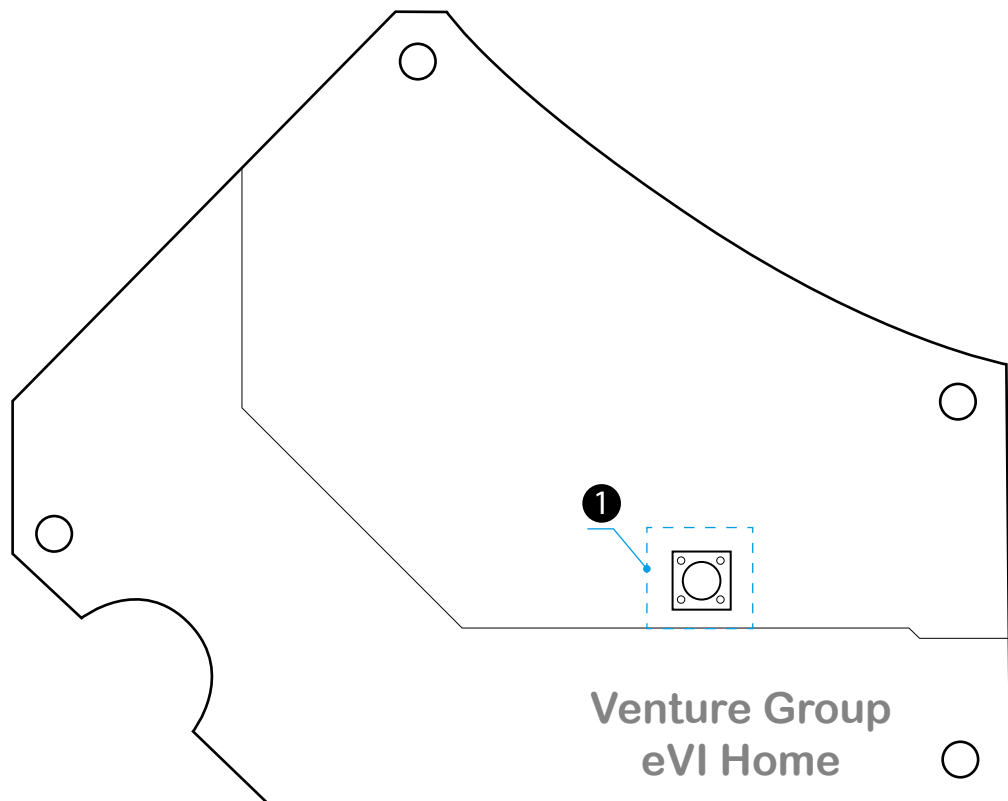

Fig. 3. Location of the button on the LOGIC Z-Wave board
2. Click once on the PCB button (Fig. 3).
1. To restore the device to the factory settings, hold down the button located on the PCB for at least 5 seconds (Fig. 3).